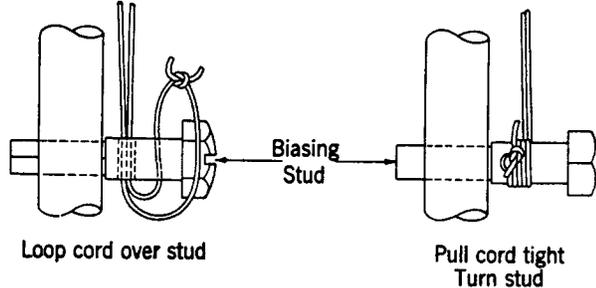

Fig. 11 - Attaching Biasing Springs on Ringers
5.02 The procedures in Figs. 11 and 12 are recommended when attaching biasing spring cords.